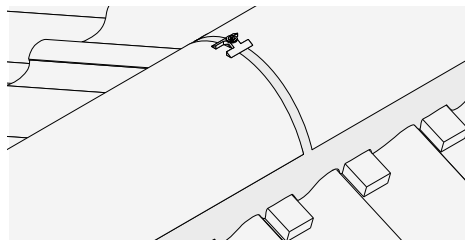

Fig. 45 – Bedded Segmental Ridge with security ridge kit
- 2 Mortar bedded ridges must also be mechanically fixed (Fig. 45) using the Marley mortar bedded security ridge kit (see pages 121-123).